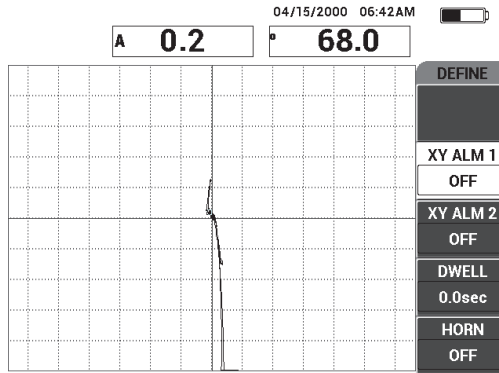

Figure 6-32 The scan over the disbond and repaired area
6. Slowly scan over a disbond and a repaired area, and then press the FREEZE key () [see Figure 6-32 on page 153].